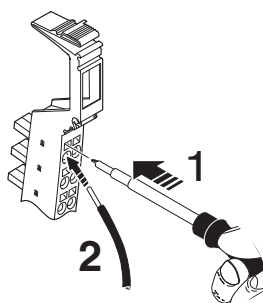

Fig. 11-1 Connecting unshielded cables
- Push a screwdriver into the actuation shaft of the appropriate terminal point (Fig. 11-1, 1), so that you can insert the conductor into the spring opening. Bosch Rexroth recommends using a screwdriver with blade dimensions of 0.6 mm x 3.5 mm x 100 mm.
- Insert the conductor (Fig. 11-1, 2). Remove the screwdriver from the opening. This clamps the conductor.
- Push a screwdriver into the actuation shaft of the appropriate terminal point (Fig. 11-1 on page 81, 1) so that you can insert the wire into the spring opening.
- Insert the wire (Fig. 11-1 on page 81, 2). Remove the screwdriver from the opening. This clamps the wire.